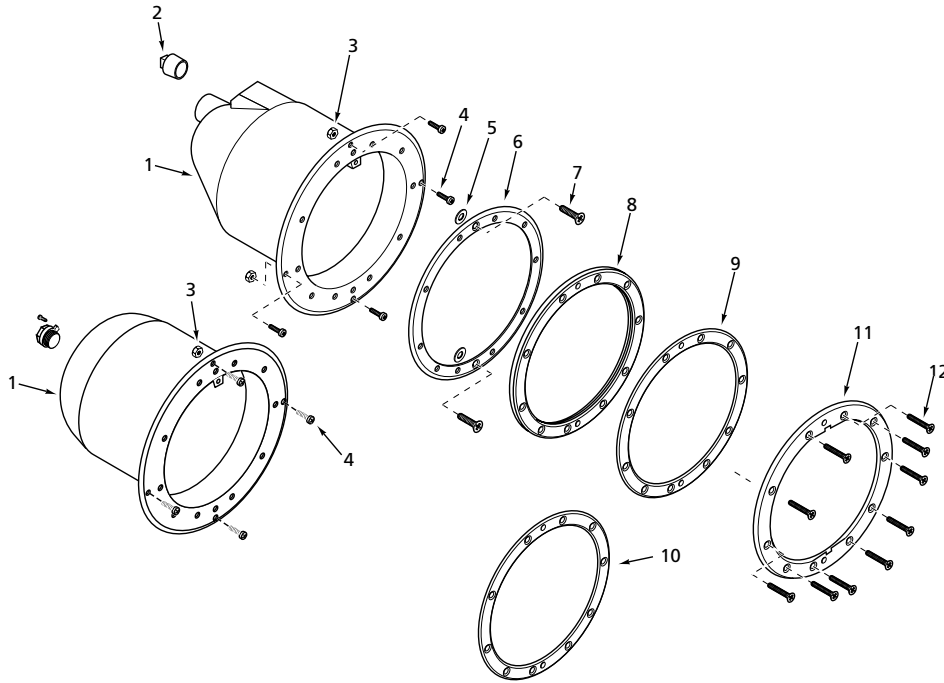

Figure 5 – Large Light Niche Exploded View
3. There are four countersunk through-holes in the niche flange (Key No.1, Figure 5). Mark the location of these holes on the pool wall and then drill them with a 7/32" bit. Fasten the niche in place with four #10-24 x 1" flat head screws (Key No. 4) and nuts (provided, Key No. 3). Do not overtighten. Please go to step 7 (Bonding).